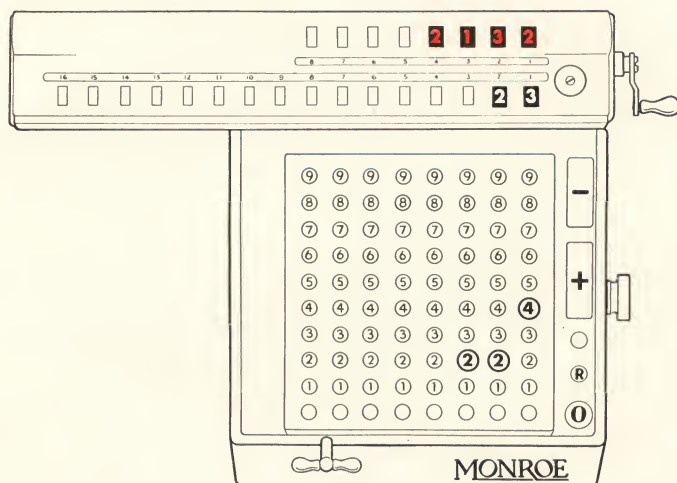

Figure 7
*Step 5*—Continue this operation, shifting the carriage and depressing minus and plus bars. At the completion of the problem the quotient, **2132**, will appear in the upper dials and the remainder, 23, will appear in the lower dials. The machine at this point appears as shown in Figure 7.